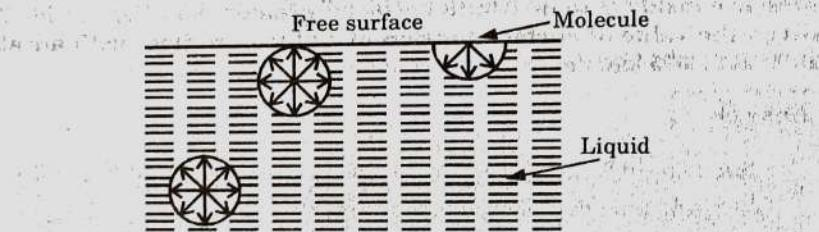

Fig. 3.4.1.
3. This occurs due to the force of cohesion at the free surface as shown in Fig. 3.4.1.